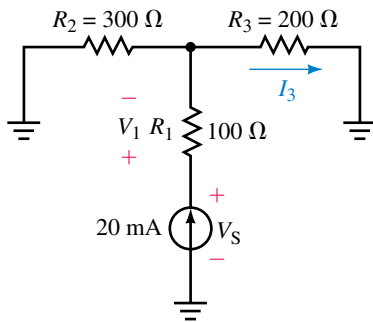

FIGURE 8-66
3. Refer to the circuit of Figure 8-66: